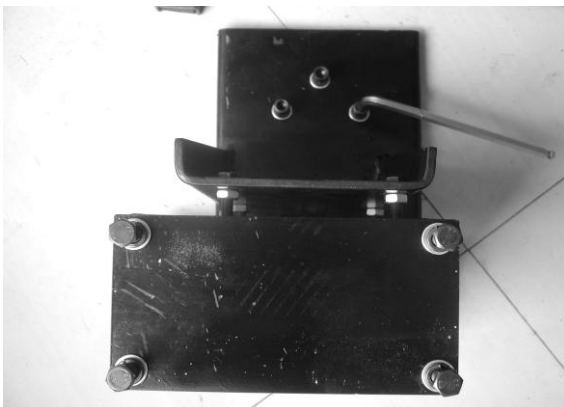

Fig34
6.1.2 Detach the package of the PL330assistant. Check the accessory according to the pack list. After confirmation, takeout the base assembly(fig34) and remove the screw and washer on it.